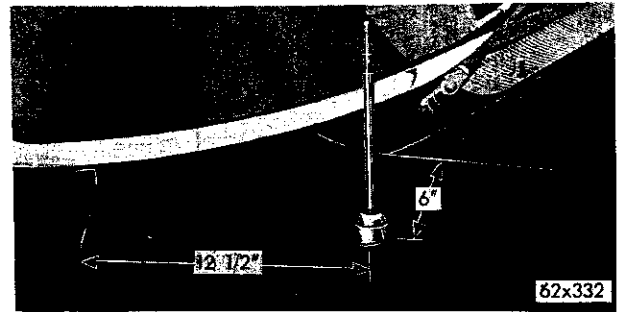

Fig. 5—Antenna Location (Imperial)
(1) On the front fender antenna equipped models (Figs. 5 and 6) unplug the antenna lead-in wire from the radio set at instrument panel. On rear mounted antennas, unplug the antenna short lead from the extension cable at the "Y" connector located in the trunk compartment.
(2) Lower the antenna.
(3) Remove the plastic cap and nut attaching the antenna to rear wheel housing.
(4) Remove the nut, plastic adapter, gasket and ground collar.